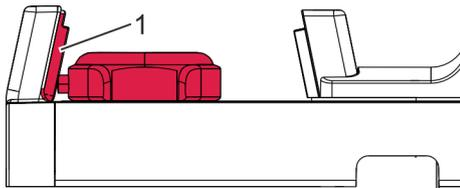
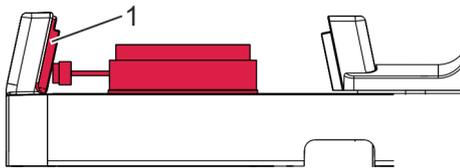

Fig. 9: Clamping the complete watch
Fig. 10: Clamping the clockwork with cup
2. ➤ Place the watch or cup on the clamping area so that the crown of the watch or cup is positioned against the signal sensor (Fig. 9/1, Fig. 10/1).